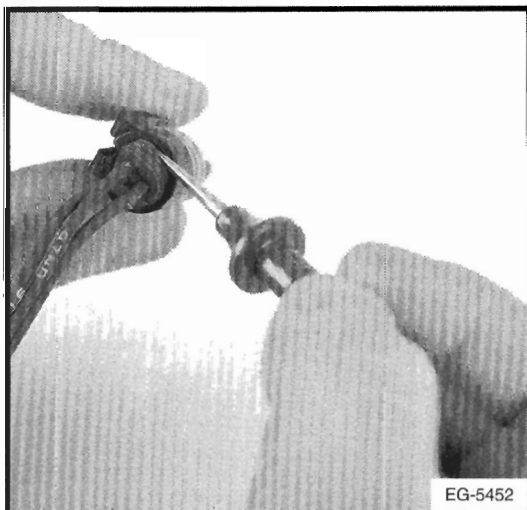

Figure 6-29. – Move The Insulation Back
1. Pry the insulator from the rear of the connector body (Figure 6-29.).